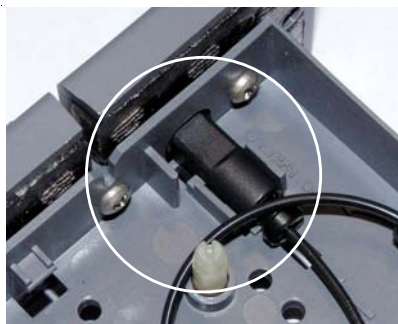

Figure 6
4. Remove the fitting plug from the outlet fitting on the separator column. Orient the fitting with a flat side up (see Figure 6) and push the fitting into the opening at the front of the column cartridge until it stops.